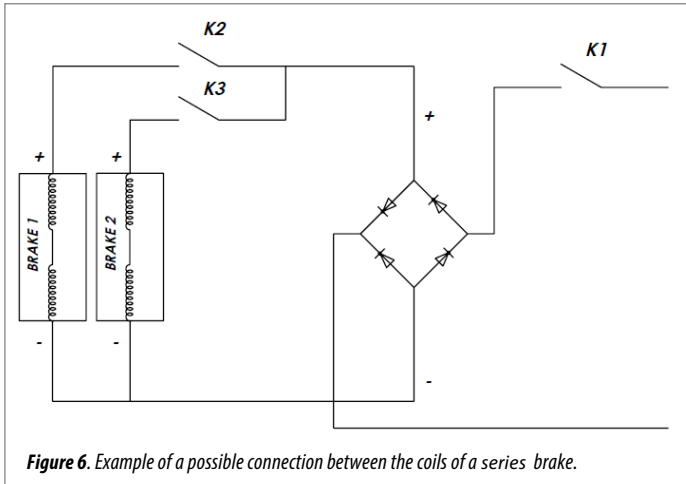

Figure 6. Example of a possible connection between the coils of a series brake.
The electrical connections of the coils (3) must be made by qualified personnel. The terminals of the coils and of the microswitch contacts (which are electrically isolated from each other) are connected to specific brake power and control terminals. The brake is powered with direct current (DC) electrical power. The voltage may be supplied via a full wave diode bridge rectifier (not included in material supplied). A principal electrical scheme is illustrated in Figures 6 and 7 (evaluate the applicability of the scheme in consideration of applicable legislation and standards).